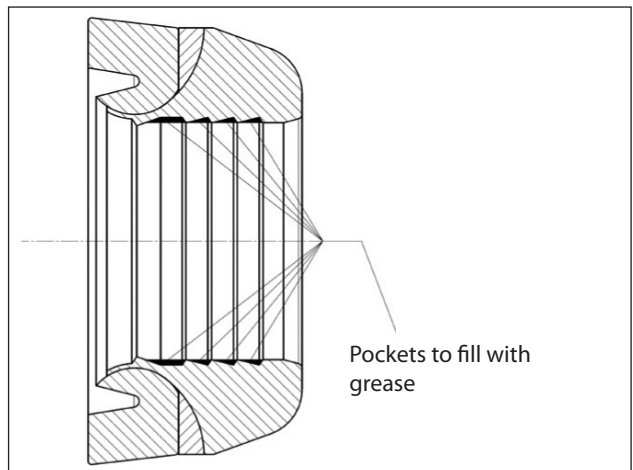
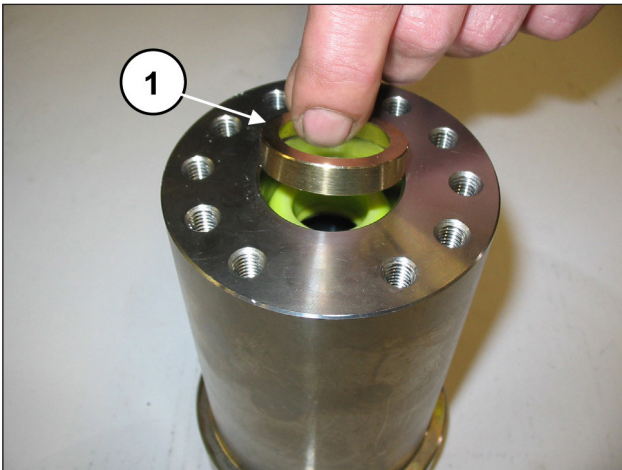
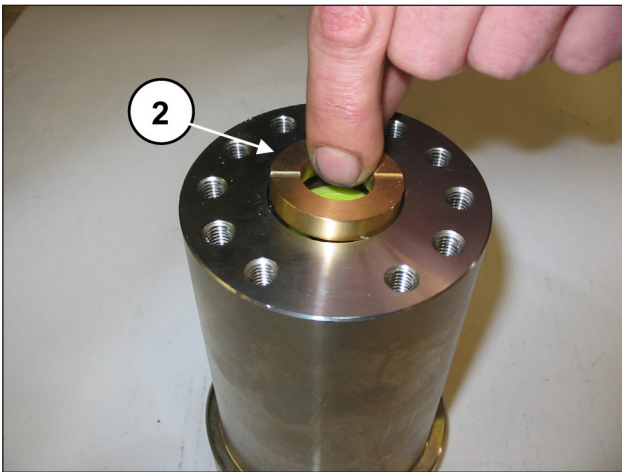
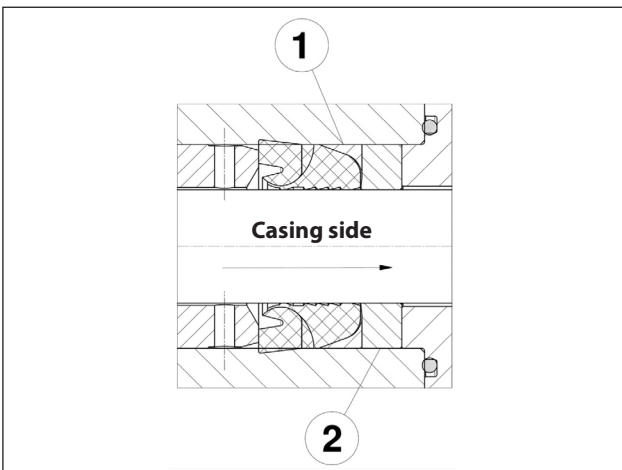

Fig. 121
Fig. 122
Fig. 123
Fig. 124
The H.P. seal must be placed in the liner as indicated in Fig. 121 and Fig. 122.
On the internal diameter, grease must be applied paying great attention to filling all the pockets between the sealing lips as shown in Fig. 122.
Insert the anti-extrusion ring and the seals bush (pos. ① and ②, Fig. 122, Fig. 123 and Fig. 124).
The gasket bush ② must be introduced into the liner with the two outlets facing outwards (casing side) as shown in Fig. 123.